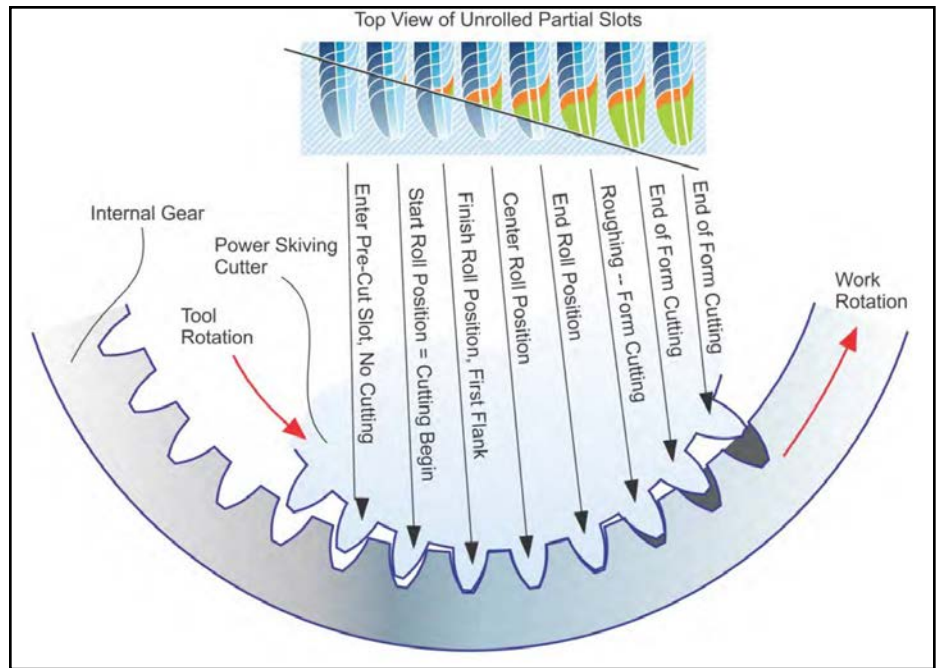
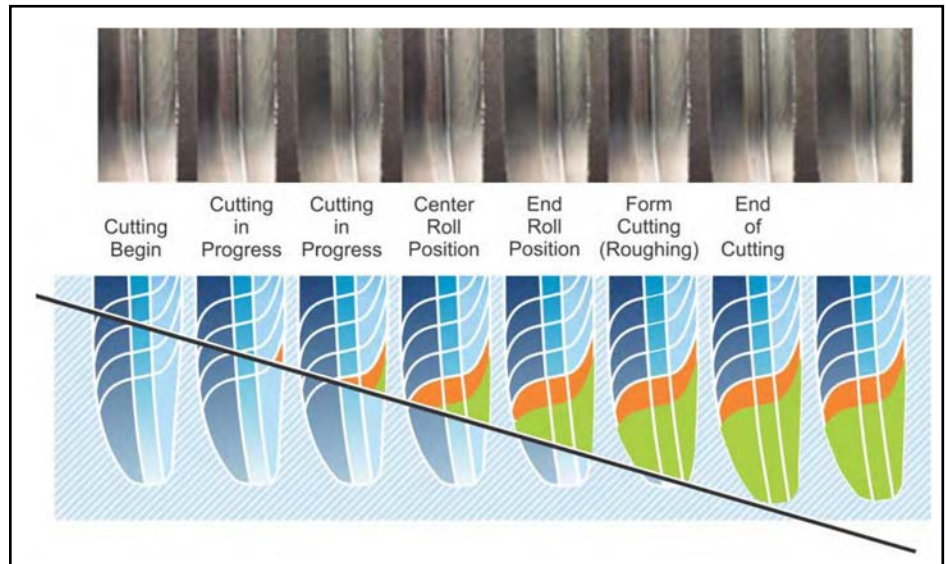
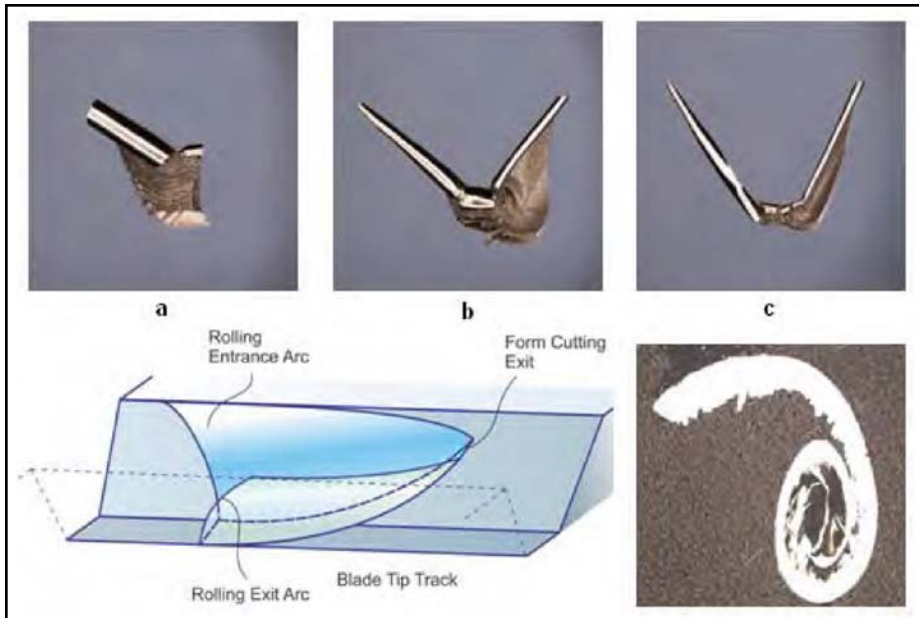

Figure 6 Cutting sequence from engagement to exit.
Figure 7 Top view of unrolled partial real slots (top) and graphics (bottom).
Figure 8 Analysis of chip formation.
The plane in Figure 6 shows a segment of an internal ring gear to be skived, and it is defined along the face width at the point where the last generating occurs. The second cutting tooth from the left has just entered into a part of the slot which is already rolled out from the previous cutting action. The third cutting tooth is advanced towards the observer and just begins a generating cut (see top view of unrolled partial slots). The generating cut continues to cut tooth number six. The lowest scallop in the top view was generated between the second and sixth cutting blade position. Cutting blades seven and eight finish the form cut end section of the slot.
A photograph of the tooth sequence from Figure 6 is shown in Figure 7 as a close-up. As one blade rotates through the cutting mesh, the orange-colored scallop is generated and the green-colored section is form-cut. The entire
Power skiving chips with a $5\times$ magnification are shown (Fig. 8, top). The first chip (A) is a side chip from the first roughing pass of a module 4.0 mm gear with a 5 mm in-feed. The second chip (B) is U-shaped, which means, unlike the first chip, the side chips and the bottom chip have not been separated. This chip is from a second roughing pass with 3 mm in-feed. The third chip (C) is from a finishing pass with 1 mm in-feed. The result of an unrolled and uncompressed chip that is just sheared off is a curved channel like that indicated in the drawing at the bottom left of Figure 8. The two side walls, as well as the bottom section of the channel, are rolled up individually and mostly without breaking into separate pieces.
The microscope photo (Fig. 8, bottom right) shows a cross-section through the left wing of one chip with a magnification of $100\times$. At the beginning of cutting (center of the chip spiral), the chip thickness is small and increases slightly during the rather short generating section (orange scallop, Fig. 7). A proportional increase of the chip thickness occurs from the beginning to the end of the form-cutting section (Fig. 7, green area).
It is possible to alternate the in-feed work angle set-over direction from part to part in order to achieve even tool wear. Another possibility is to apply a positive side rake (e.g., 2°) to the left side of the blade (Fig. 8) that will enhance the cutting action on this side and generate L-shaped chips. If the resulting feed direction (Fig. 8) is not exactly parallel to the right flank, but about 3° "steeper," then a perfect clean-up of the right flank is guaranteed and the surface finish of the right flank will be equal or slightly better than the finish on the left flank.